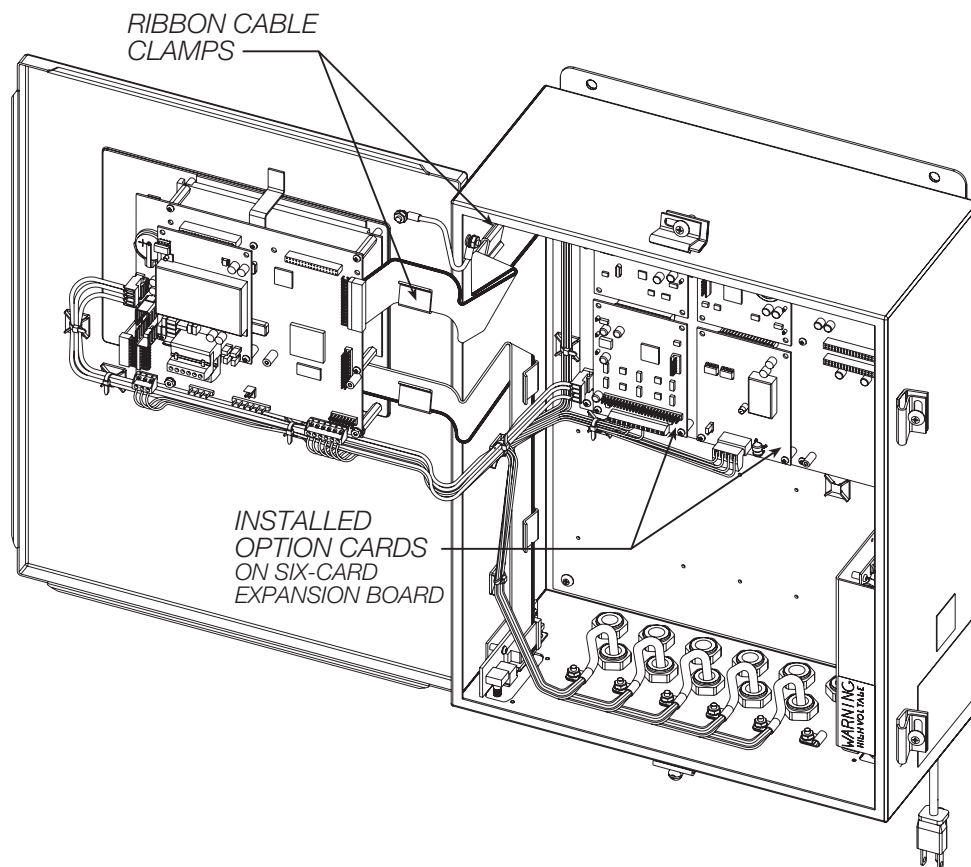
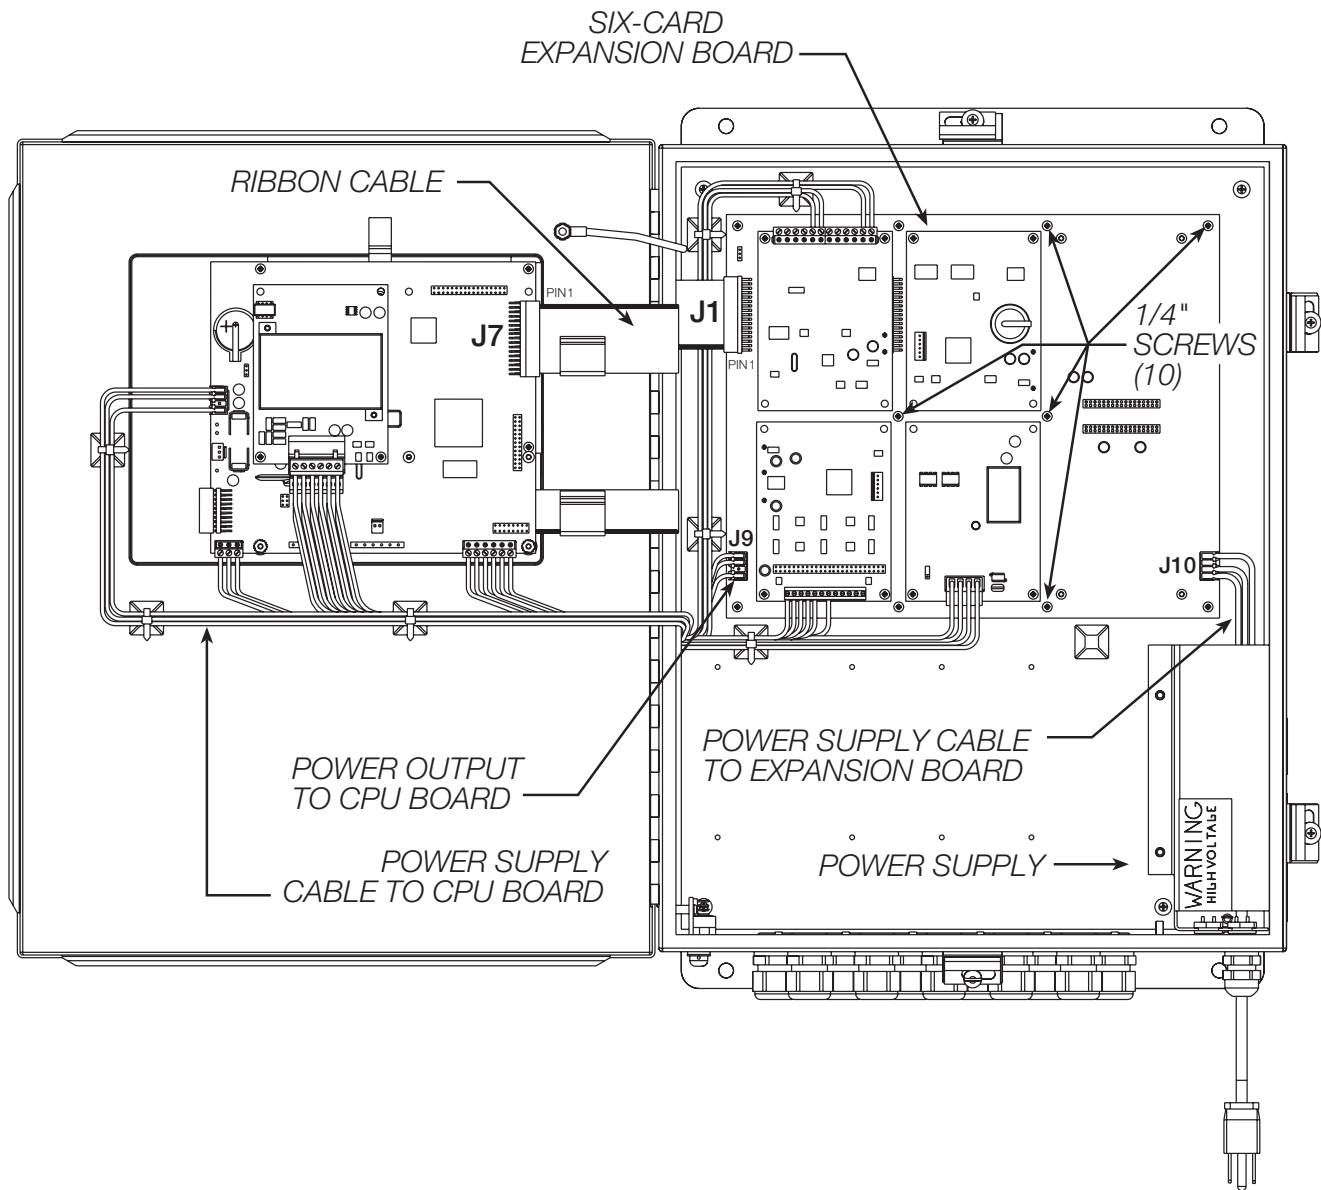

Figure 2. Six-Card Expansion Board Installed in Wall Mount Enclosure, Isometric View
Figure 3. Six-Card Expansion Board Installed in Wall Mount Enclosure
Use the following procedure to install the six-card expansion board in the wall mount enclosure. See Figure 2 below and Figure 3 on page 3 for locations of option kit components.
4. Remove adhesive covering from two ribbon cable clamps and install on door and side wall of enclosure (see Figure 2 on page 2).
5. Mount six-card expansion board on studs at back of enclosure. Use ten 1/4" screws (PN 14839) to secure board to studs (see Figure 3 on page 3 for screw locations).
6. Attach ribbon cable to connector J7 on the CPU board, with the striped edge of the cable on the pin 1 side of the connector. (See Figure 3 on page 3 for connector and pin locations.)
7. Slide the ribbon cable into the cable clamps and attach to connector J1 on the expansion board, with the striped edge of the cable on the pin 1 side of connector J1. Note that the ribbon cable must be folded (see Figure 2) for correct orientation at the connector.